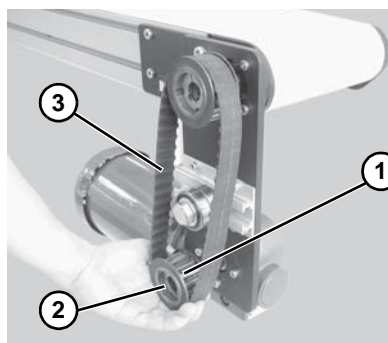

Figure 19
*If drive pulley (**Figure 19, item 1**) is replaced, wrap timing belt around drive pulley and complete step 3.*
4. Remove pulley (**Figure 19, item 1**), taper hub assembly (**Figure 19, item 2**), and timing belt (**Figure 19, item 3**).
*Drive pulley (**Figure 19, item 1**) is removed. Wrap timing belt around drive pulley and complete step 15.*